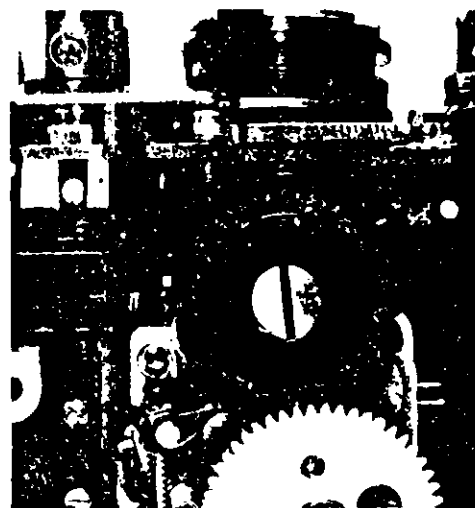

Fig. 4
- 3) Fig. 4 shows the engagement between the shutter GEAR and the SPEED INDICATOR CAM.